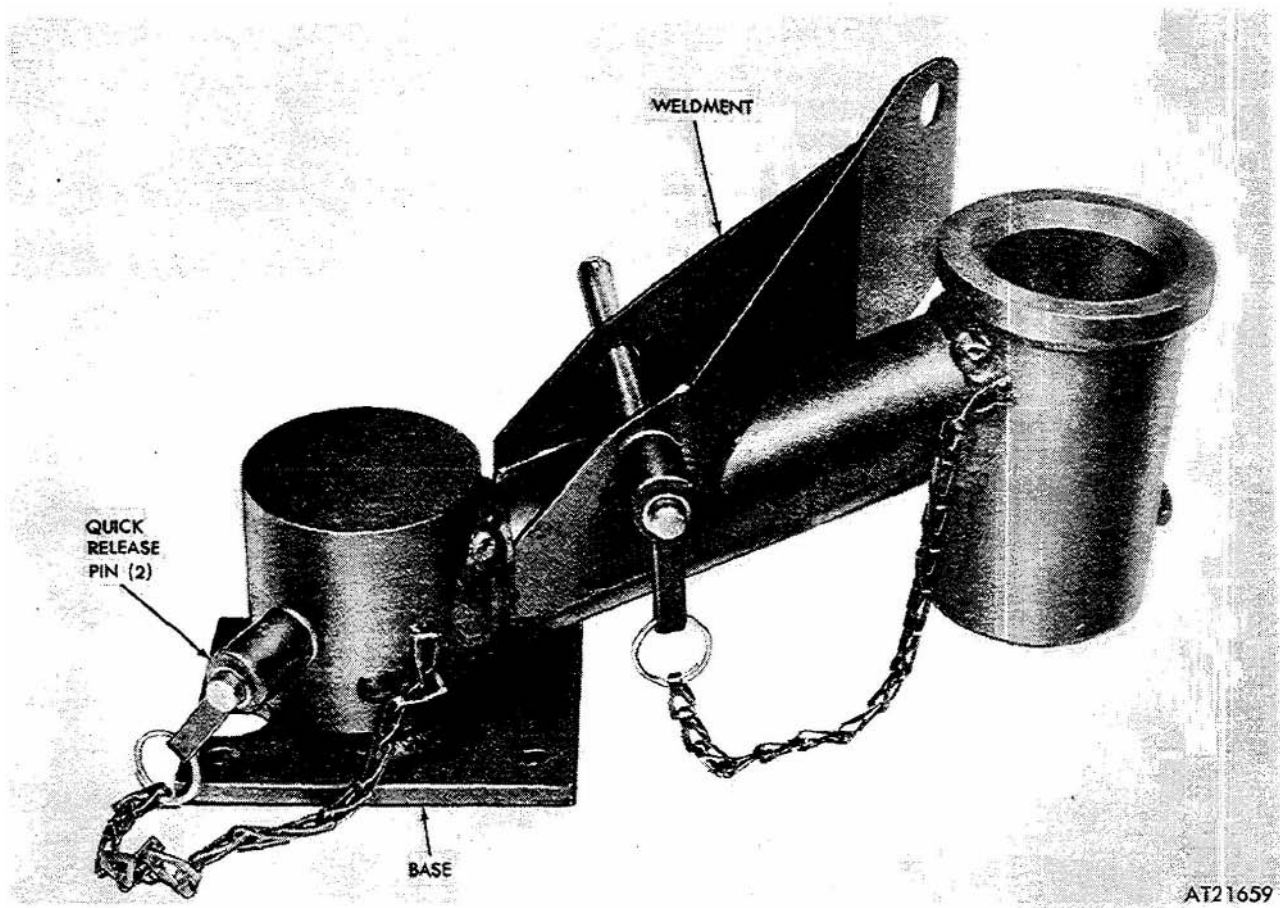

Figure 4-35. 7.62mm Machine gun mount assembly.
a. *Gun Mount Assembly.* The gun mount assembly consists of a gun mount base and a gun mount **weldment** (fig 4-35). The gun mount base is